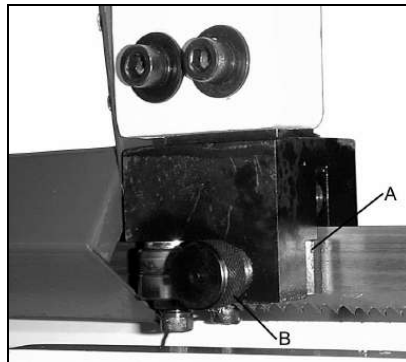

Fig 12
Loosen ceramic blade guides (A, Fig 12) by loosening screws (B). Move blade guides away from the blade.
Adjust ceramic blade guides (A, Fig 12) back into contact with the blade.